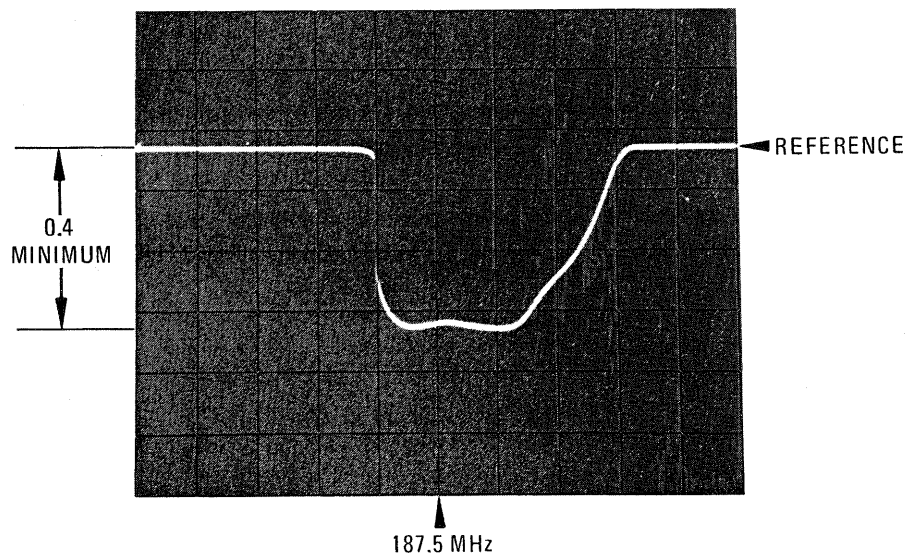

Figure 5-9. Typical Swept Frequency Response at A3A9A5TP1
8. Adjust A3A9A5C1 and C2 (with an insulated adjustment tool) to get an oscilloscope display similar to Figure 5-9. Tune for maximum negative voltage and flatness over the center two divisions. The minimum change from the reference level to the center two divisions should be 0.4 volts. (Troubleshooting Note: If the minimum change is out of tolerance, A3A9A5Q3 and Q8 may have low gain, the YTO feedback signal feeding the RF port of the mixer may be low, or the sampler may be bad.)